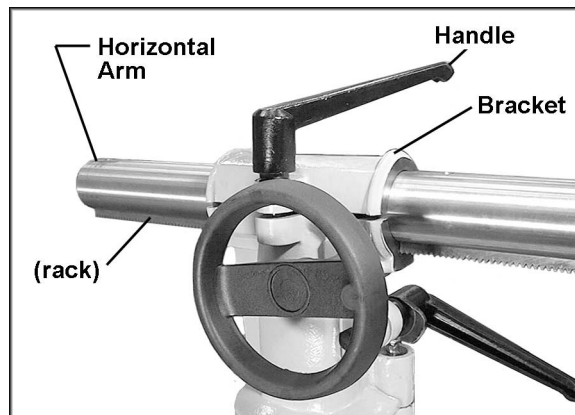

Figure 4
12. Loosen the handle above the bracket (Figure 4).
13. The end of the horizontal arm that has the rack extending to the end will be inserted into the bracket. Insert the horizontal arm, with the rack pointed downward, into the bracket. The rack will fit through the keyway in the bracket. See Figure 4. Continue to push the horizontal arm into the bracket while slightly rotating the handwheel counterclockwise, until the rack and pinion mesh. The horizontal arm can now be moved into the bracket by rotating the handwheel.